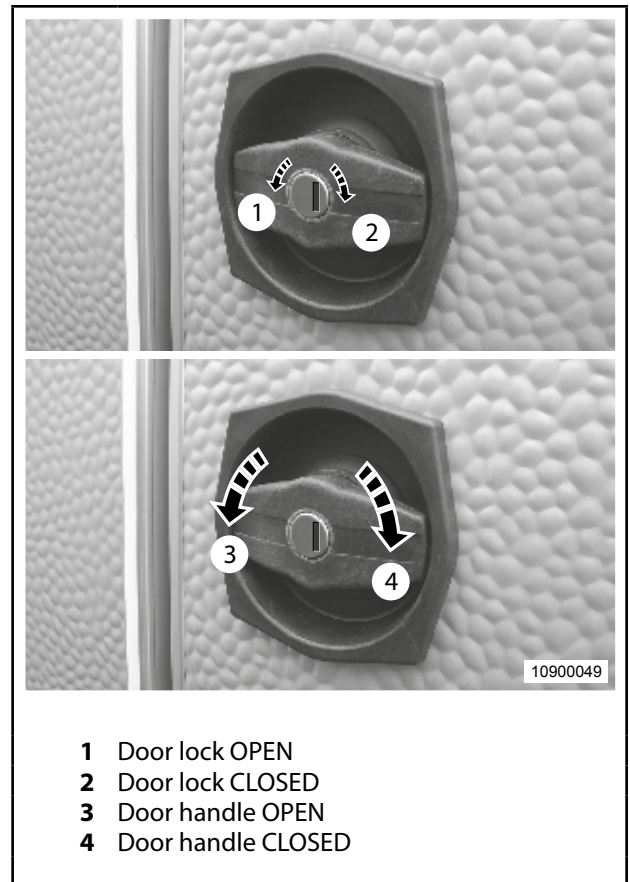

Fig. 10 Opening/closing the door from outside
1. Insert the key and turn anticlockwise (Fig. 10, item 2) to position » OPEN «. The key jumps back to its initial position.
3. Turn the door handle clockwise (Fig. 10, item 4) to position » OPEN « and open the door.
1. Close the door, insert the key in the door lock and, with slight pressure against the door, turn anticlockwise (Fig. 10, item 3) to position » CLOSED «. The key jumps back to its initial position.